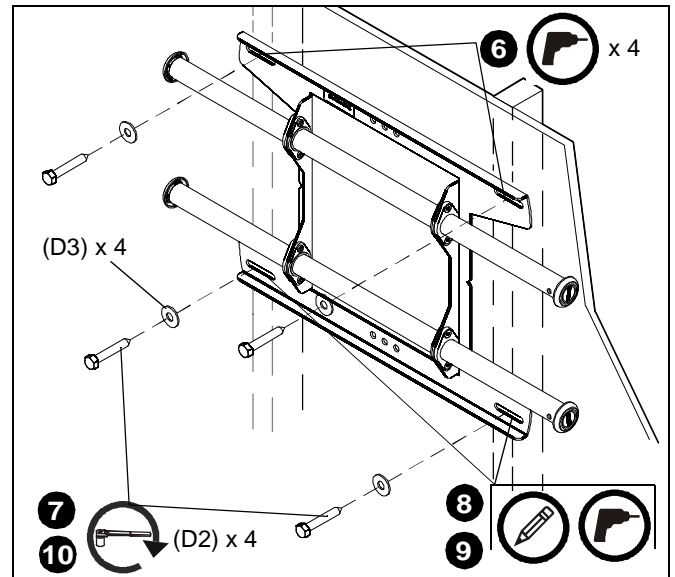

Figure 3
- Use two 5/16 x 2-1/2" lag bolts (D2) and two 5/16" flat washers (D3) to attach top of mount to wall. (See Figure 3)
- Mark the attachment points for the lower mounting slots, making sure the attachment points are located on the studs. (See Figure 3)
- Drill 7/32" pilot holes at markings for lower mounting holes. (See Figure 3)
- Use two 5/16 x 2-1/2" lag bolts (D2) and two 5/16" flat washers (D3) to attach the mount to the wall through the lower mounting holes. (See Figure 3)